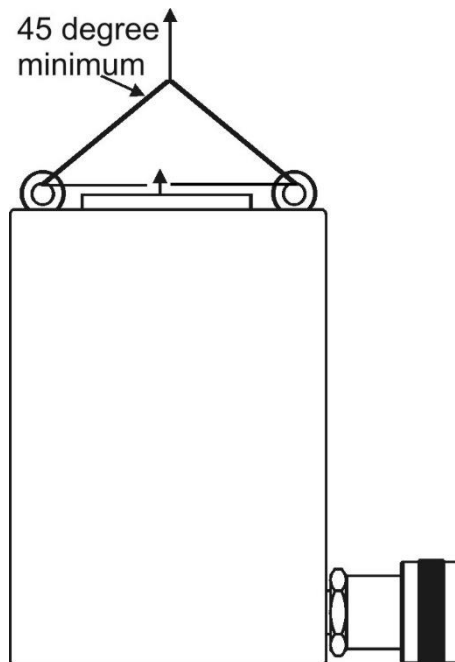

Figure 1 – Hoisting Cylinder
- ⚠ **WARNING:** When hoisting the cylinder, use **all** of the eye bolts. Failure to do so could cause the cylinder to drop unexpectedly. Lifting straps must be at a 45 degree or greater angle from horizontal. See Figure 1 (below)